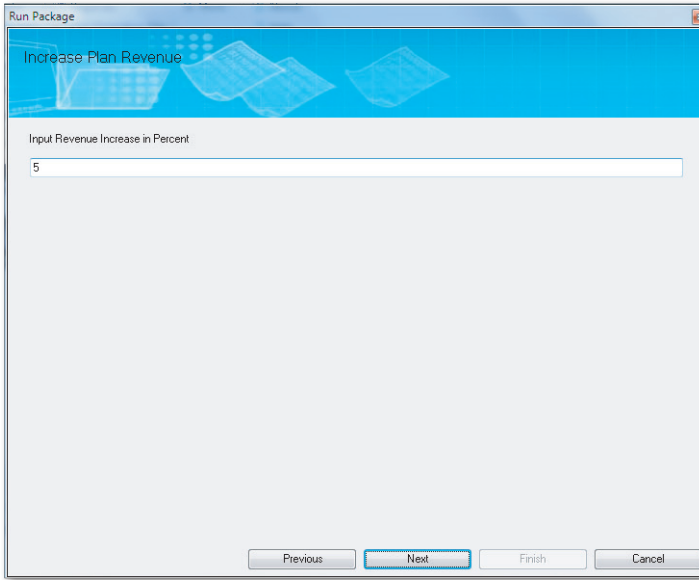

Figure 6.17 Creating Logic Script to Revalue Plan Data—Part N
- Enter the revenue increase percent you want to effect, and click on NEXT (Figure 6.17).